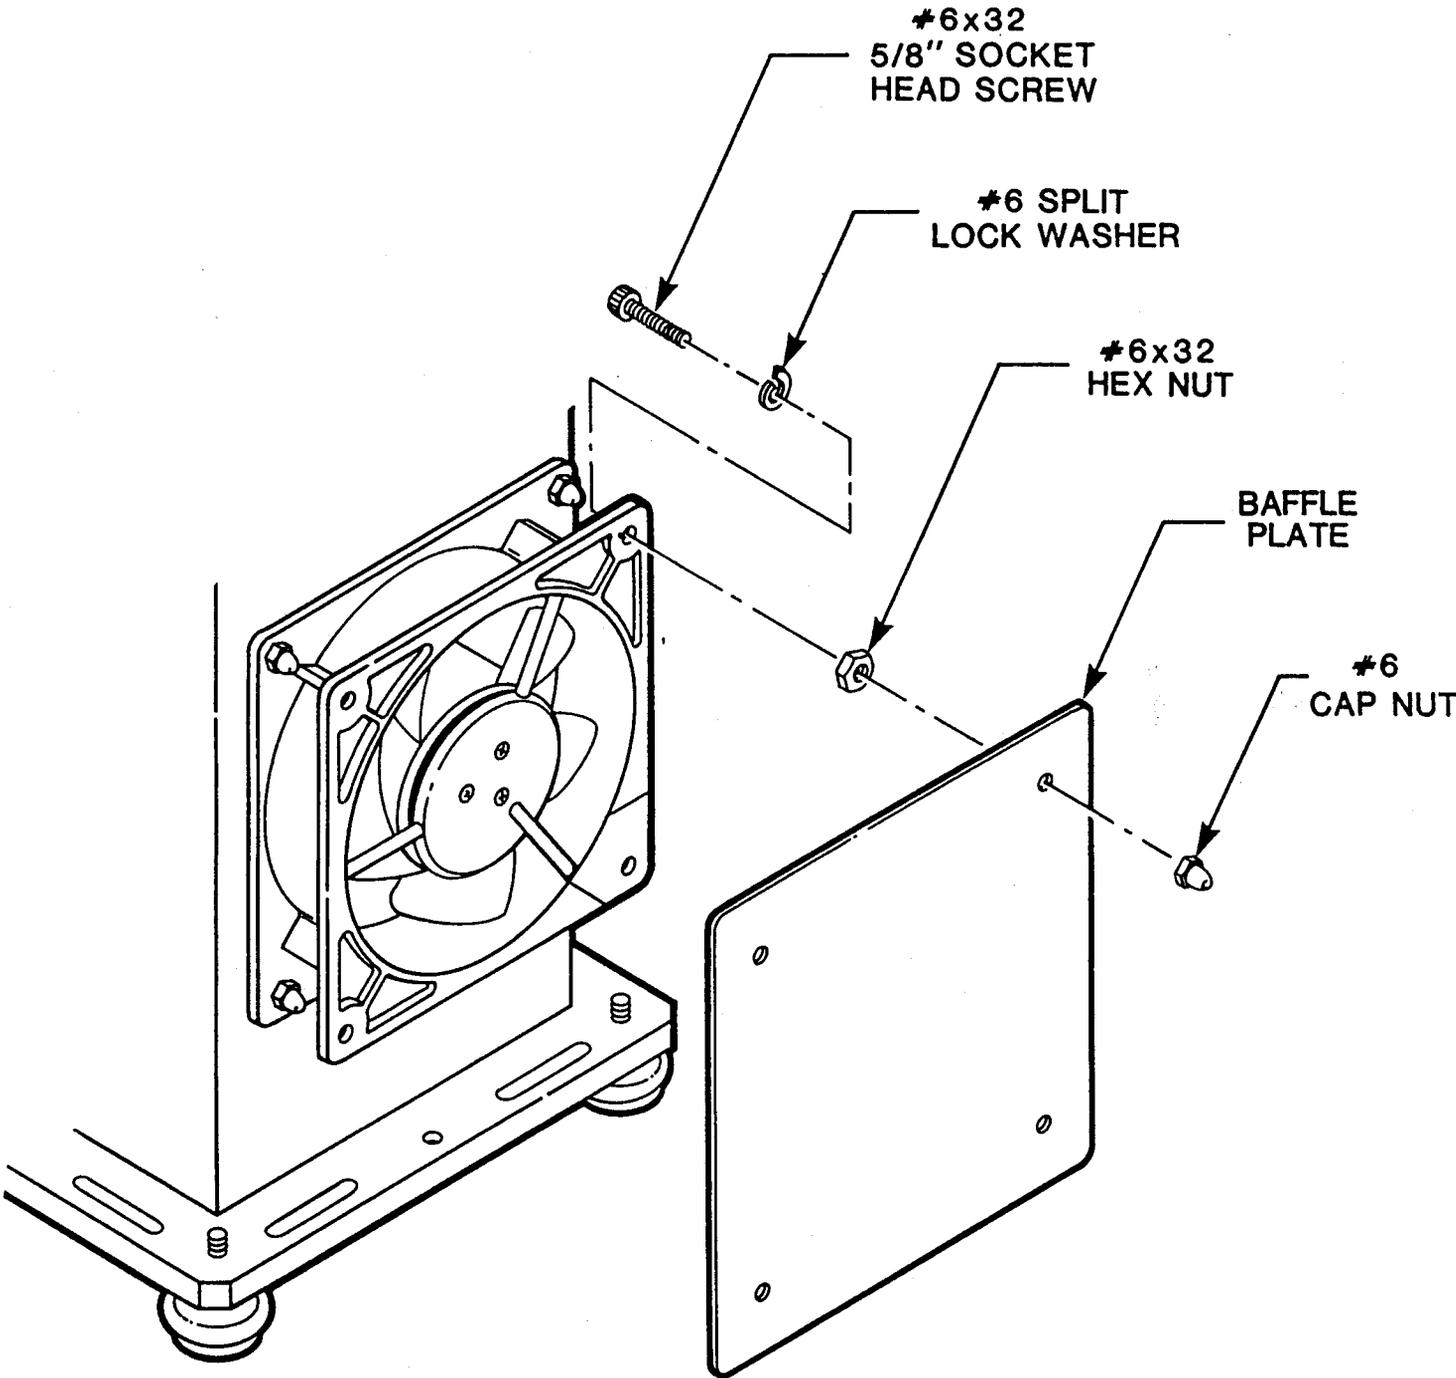

Fig. 8 Installation of Baffle Plate
With the fan running it is possible that a mercury lamp will be overcooled and stabilized at lower voltage and higher current than the optimum values. Mercury lamps have varying cooling requirements. You may need to attach the baffle plate (supplied) to the lamp housing fan in order to maintain proper air flow. Table 2 on page 19 shows which lamps require a baffle, and Fig. 8 on page 20 shows the installation. To install the baffle plate:
- b. Install the baffle plate as shown in Fig. 8, using the four screws from the finger guard. After installing the baffle, recheck the current and voltage characteristics. This information is available in the Volume II catalog.